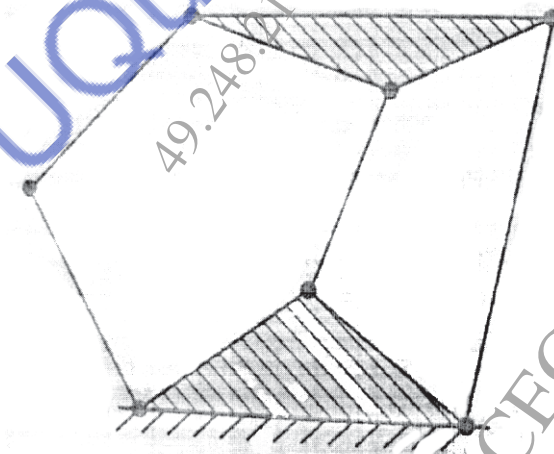

Fig.1
- c) For kinematic linkage as shown in fig.1, calculate the following: [6]